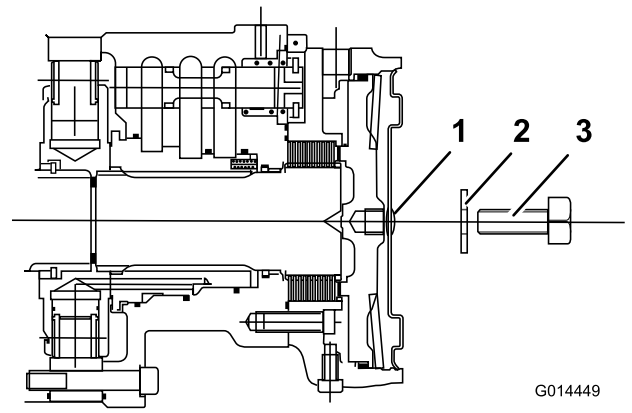

Figure 52
4. Install a M12 x 40 mm long setscrew with washer into the hole in the center of the motor end plate (Figure 52).
5. Tighten the setscrew into the threaded hole in the brake piston until the brake is released (Figure 52).
6. Identify the left-hand front wheel motor disc brake assembly and repeat the previous procedure (Figure 52).